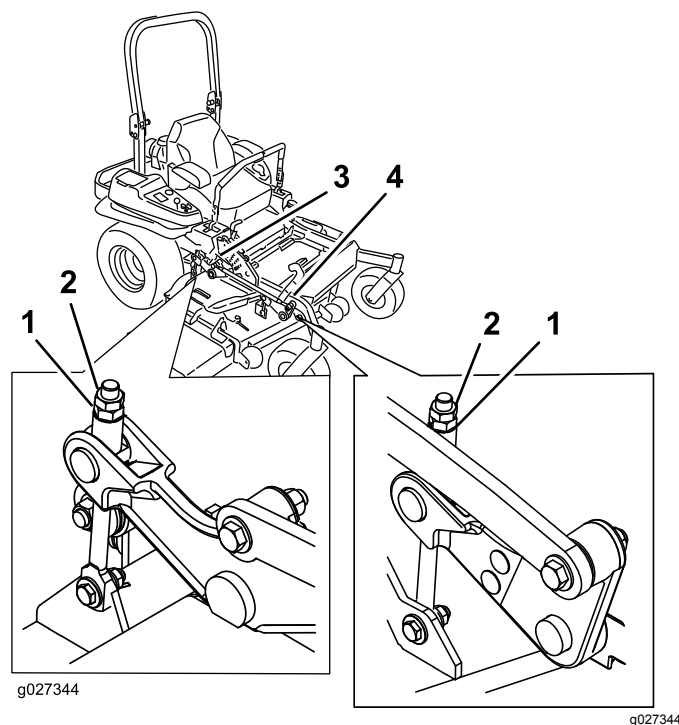

Figure 91
10. Fine-tune the adjustment nut on the front deck lift assembly by turning it (Figure 91).
16. Fine tune the screw adjuster by turning it to get 8.3 mm (3-1/4 inches) height (Figure 91).